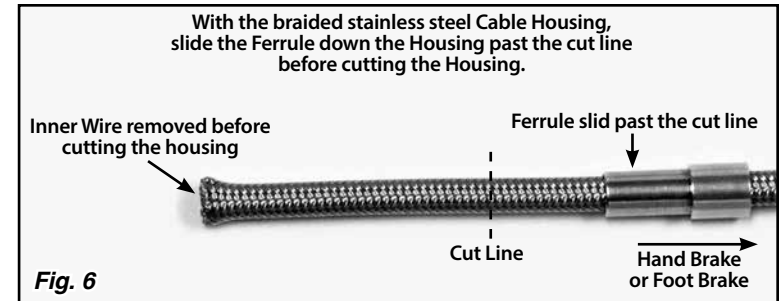

Fig. 6
**Step 6:** It will be necessary to shorten the new connector cable housing. **Make sure that the inner wire is removed from the cable housing!** Mark the cable housing where it lines up with the cable adjuster. If the cable housing is braided stainless steel, slide the ferrule up the housing towards the dash, away from the end that is being cut. **DO NOT remove the ferrule if the cable housing is braided stainless steel!** Fig. 6